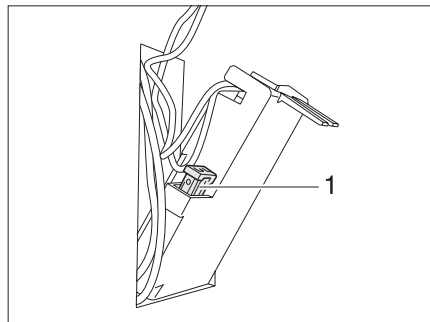

Fig. 154 Fuse for the Thetford toilet
- ▶ Replace the fuse (Fig. 154,1).